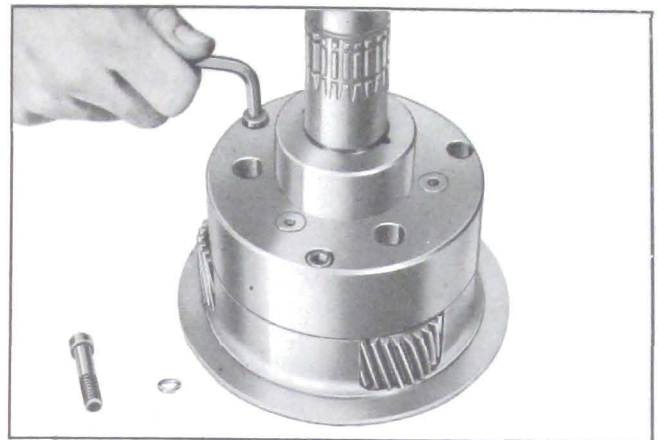

Figure 5-102—Removing Planet Carrier Screws
2. Remove three planet carrier screws and special lockwashers, using a $7/32$ " hexagon (Allen) wrench. See Figure 5-102. A used universal joint front yoke may be placed on output shaft and held with a bar while loosening the screws.